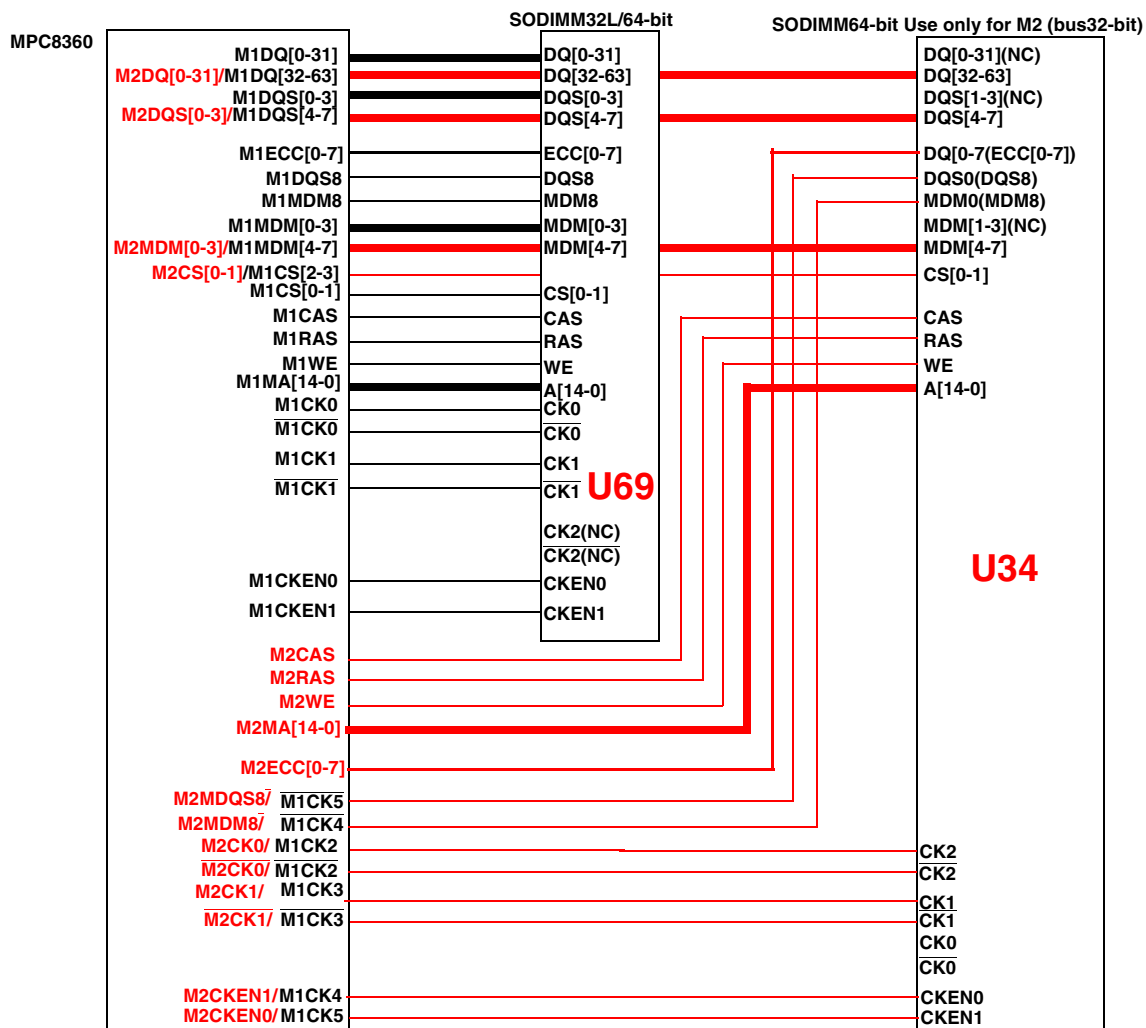

Figure 5-8. DDR Connections Block Diagram
- **2 x 32 bit:** Implementation of 2 X 32 bit DDR I/F is shown in Figure 5-8.